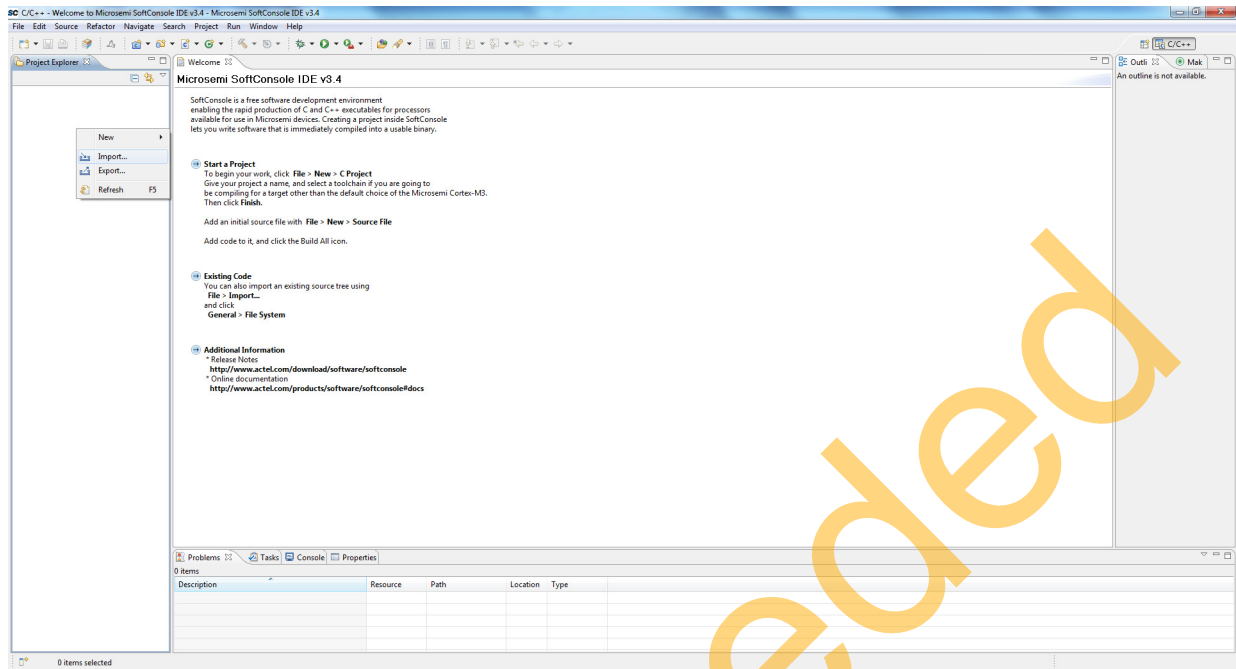

Figure 2 • SoftConsole IDE - Import
2. Right-click the **Project Explorer** window and choose **Import** as shown in Figure 2.